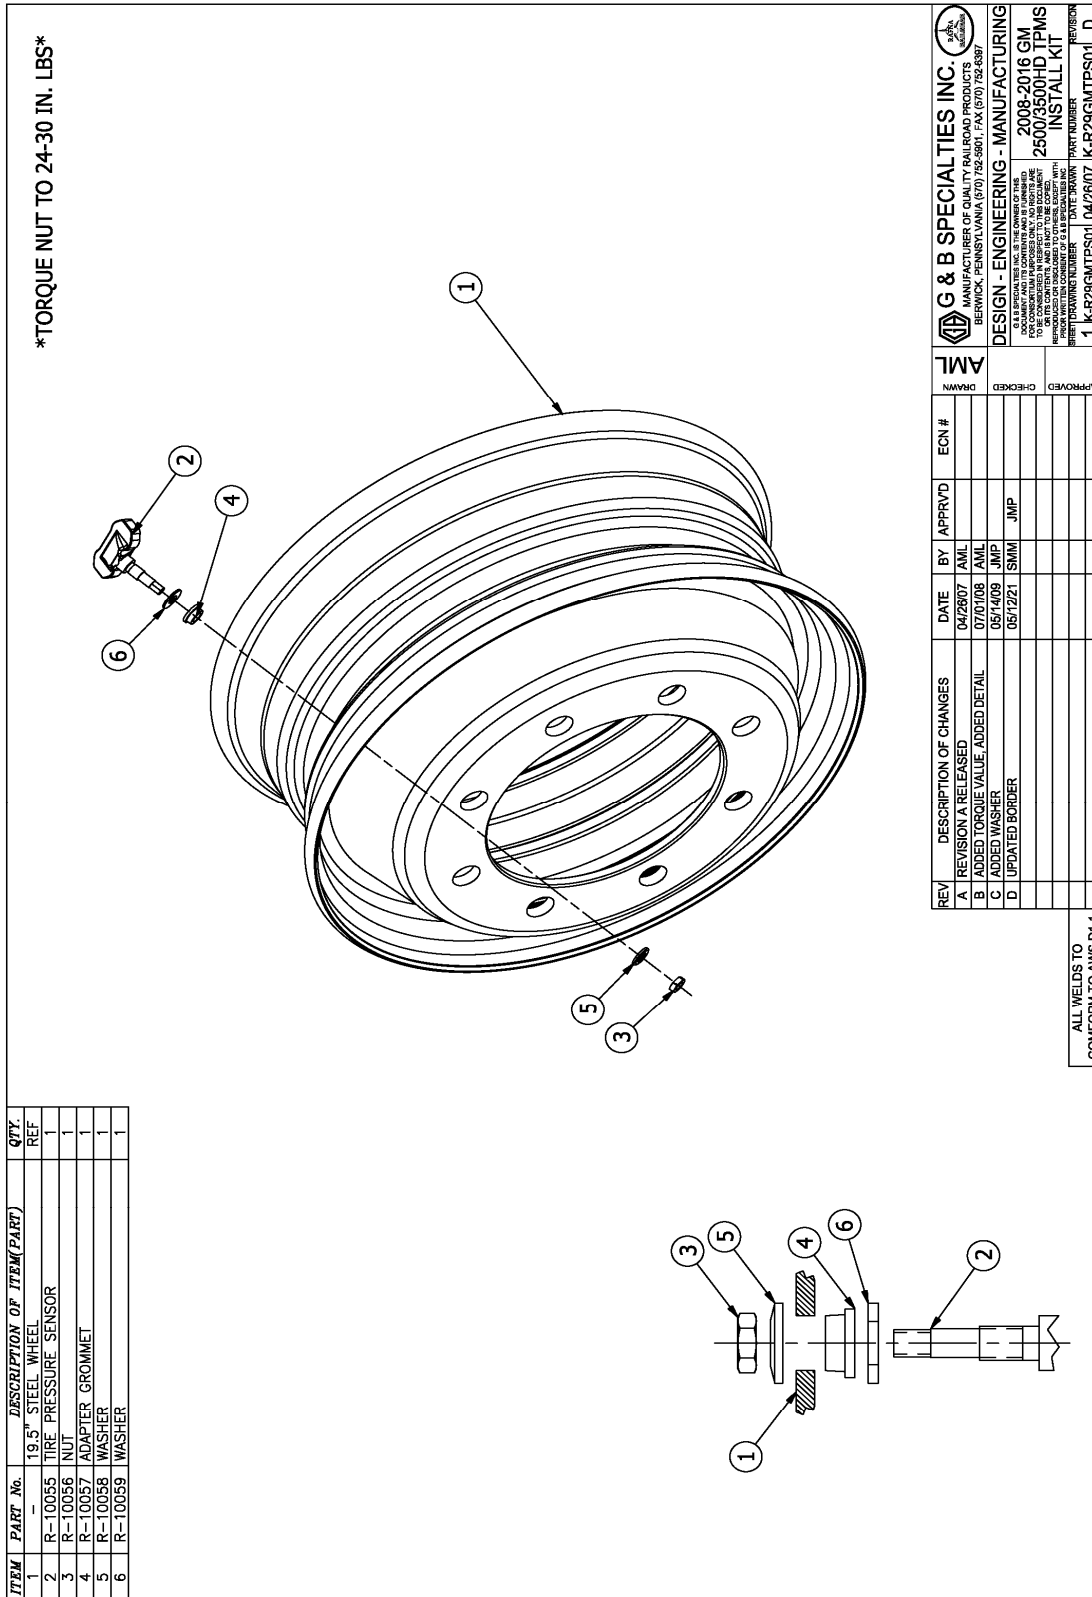

Figure 1
2. Assemble pressure sensor, grommet, washer and nut to the 19.5" wheel as shown in Figure 1.